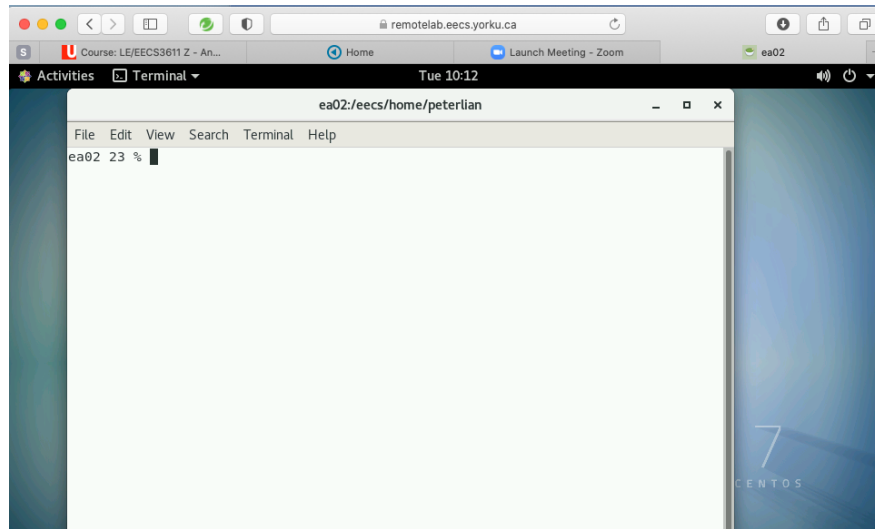

Fig.3 Open a terminal in Linux
1) Login to a Linux machine by Right-click mouse to open a terminal like Fig. 3: